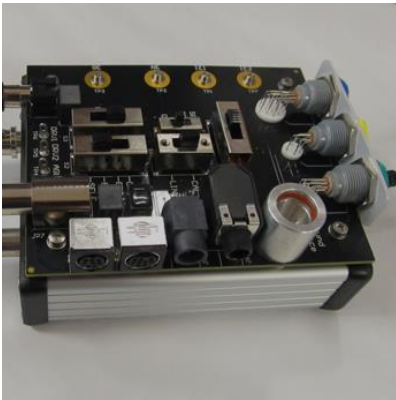

Figure 4
1. Connect the adaptor board to the CaliBoard (CON1 through to CON2). VERIFY THAT THERE ARE NO TRANSDUCERS CONNECTED. (Figure 4)